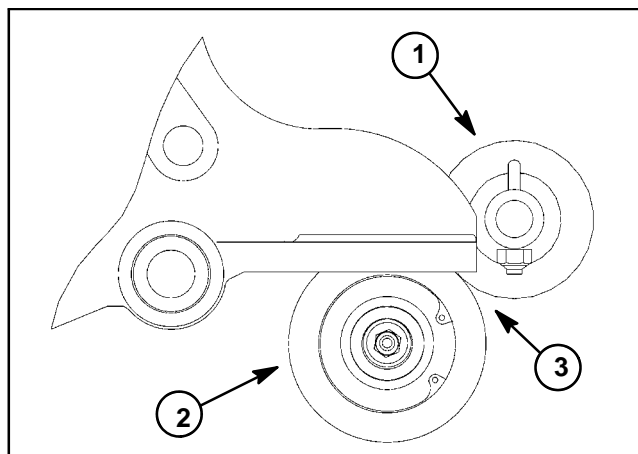

Figure 47
5. Check that roller brush has light contact with rear roller (Fig. 47). If contact is incorrect, brush operation will be adversely affected. Also make sure that brush shaft is parallel with rear roller.